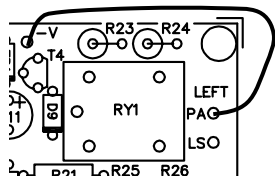

Fig. 1.0
- Connect the point PA of the left channel to the point -V (figure 1.0); the red LED 'ERROR' should now be lightening together with the yellow LED 'WAIT'.